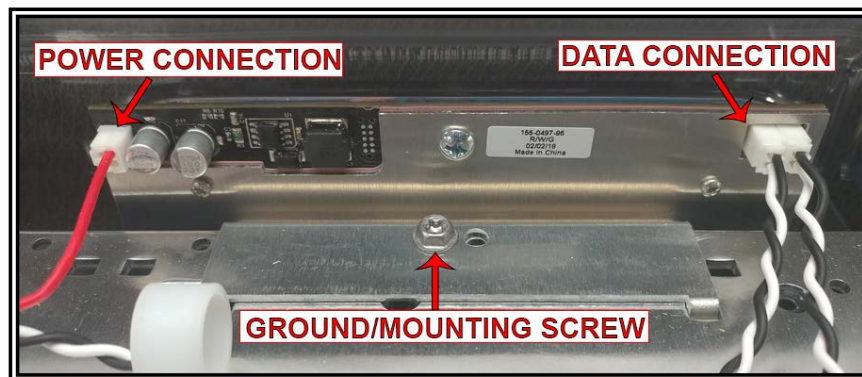

Figure 2
5. Locate the Light Module (LM) to be replaced.
6. Remove red Power Connection cable from back of LM. See various examples of LMs in Figures 2 and 3.
7. Remove black and white Data Connection cable(s), as seen in Figures 2 or 3, from back of LM. Some modules will only have one, some will have two.
8. Unscrew the ground/mounting screw as seen in Figures 2 and 3, and any additional mounting screws. Set the screw(s) aside. Additional replacement screws can be found with the LM packaging.